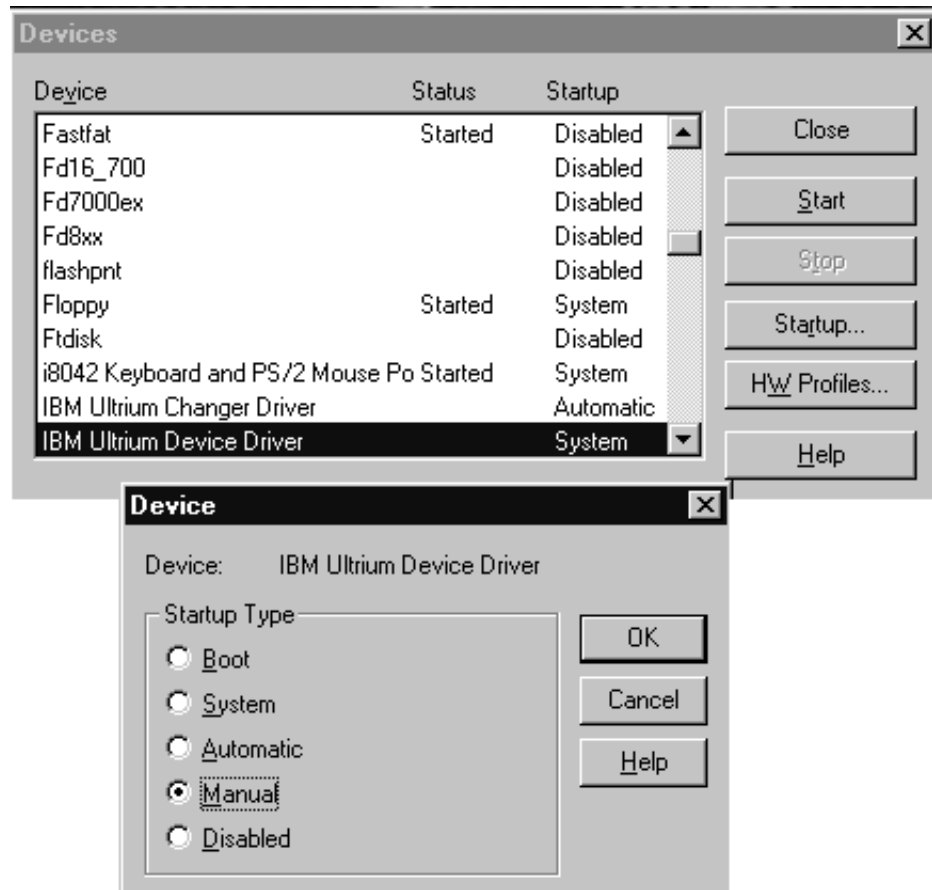

Figure 25. Manual Starting and Stopping Menu
5. Select the driver, click **Startup...**, select **Manual**, then click **OK**. See Figure 25 on page 207.